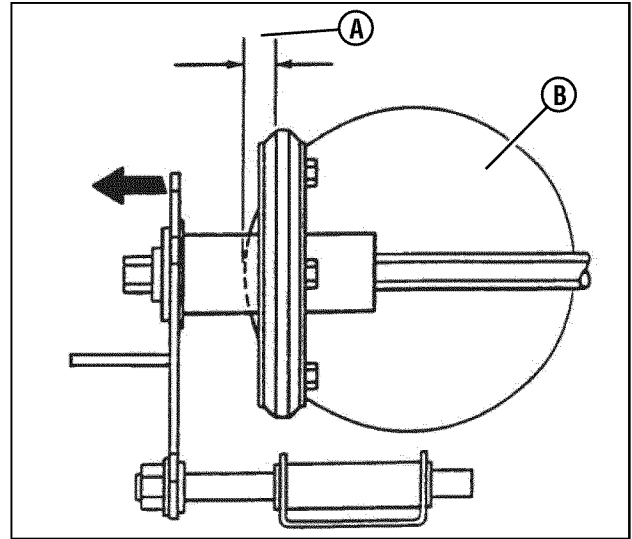

Figure 29: Proper driven disc adjustment
- Slide the driven disc assembly over to 1/8" (A, Figure 29) from the outside edge of the drive disc (B).